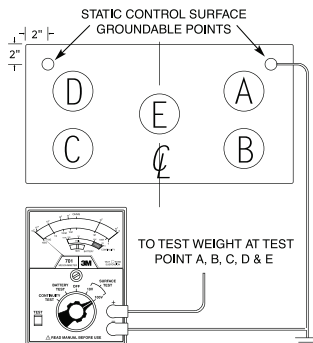

Figure 5-1: Periodic Performance Tests of Installed Surfaces
Refer to the two following sections to determine which measurement(s) should be used for your application. Place the Tester on a table top or other stable surface and attach the leads as shown in the appropriate sketch figures 5-1 through 5-5. Set the Main Selector Switch to the desired **SURFACE TEST** voltage. Place the test weight(s) on the surface to be tested and connect the test leads. Press **TEST** for 15 seconds and then read the resistance from the OHMS scale. After all readings have been completed, return the Main Selector Switch to the **OFF** position.
B. Set the 3M™ Test Kit for Static Control Surfaces 701 on a table top or other stable surface and place a test weight at the desired test point as shown in Figure 5-1. Connect the test leads to the meter using the right angle banana plugs at the meter. Then connect one of the test leads to the test weight and the other to the **ESD GROUND** using one of the supplied clips.